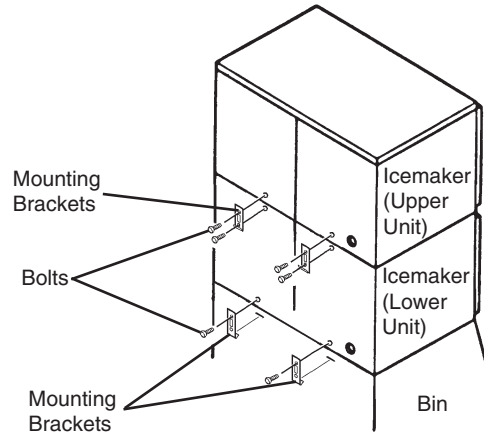

Fig. 4
5. Stacking Two Ice makers - See Fig. 4 and 5